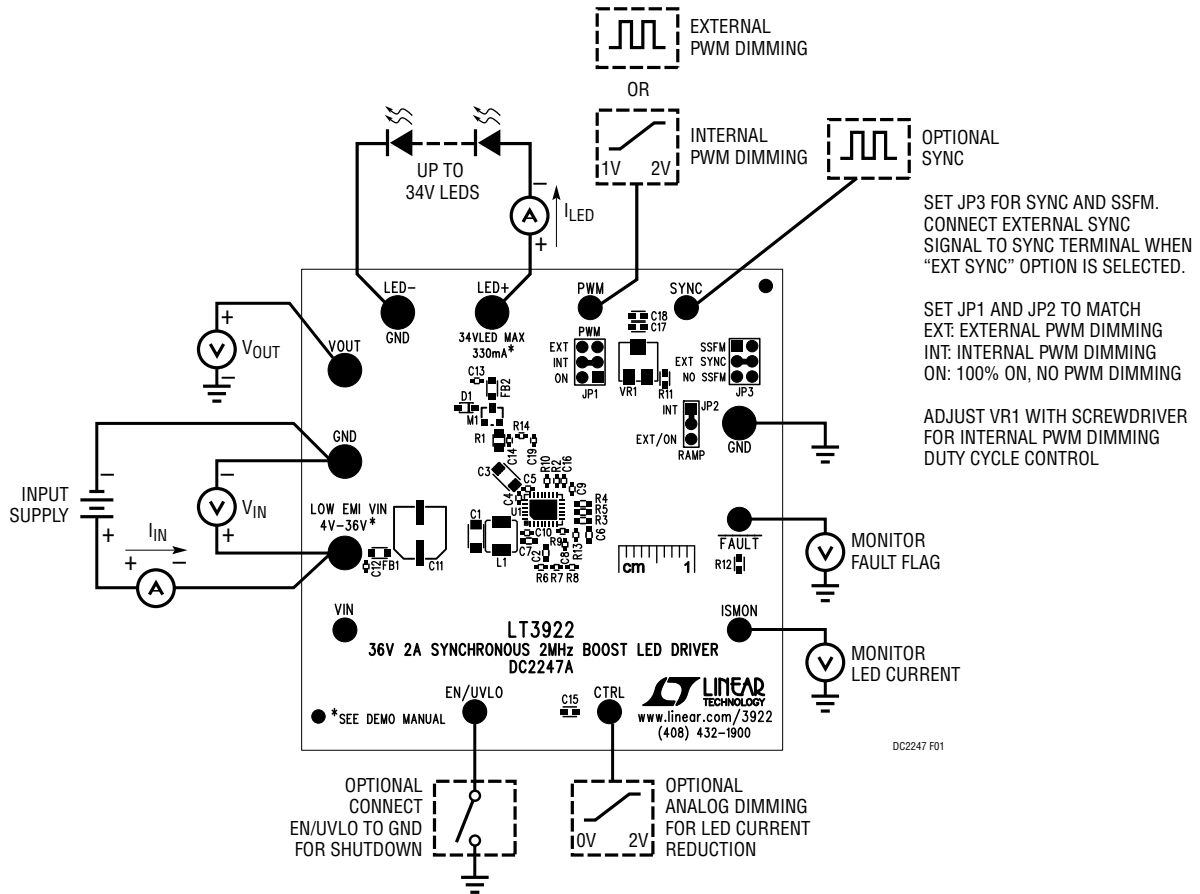

Figure 1. Test Procedure Setup Drawing for DC2247A
1. With power off, connect a string of LEDs that will run with forward voltage less than or equal to 34V (at 330mA) to the LED⁺ and LED⁻ terminals on the PCB as shown in Figure 1.